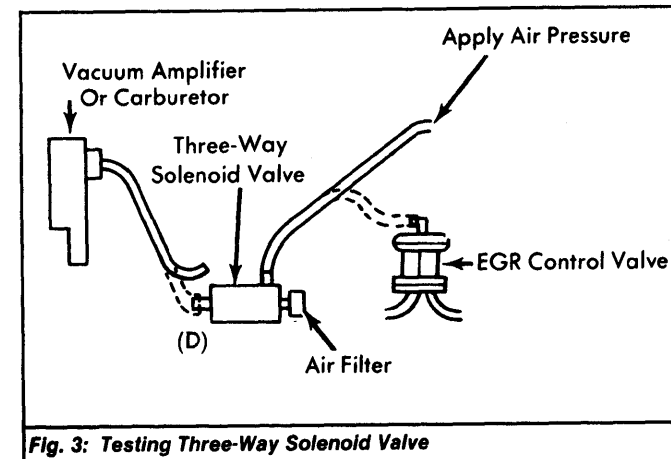

Fig. 3: Testing Three-Way Solenoid Valve
2) Turn ignition on. Apply air pressure to disconnected EGR vacuum sensing tube. See Fig. 3. Air should pass through valve and come out air valve filter.